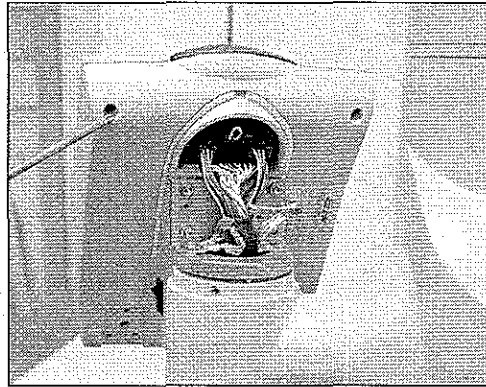

Figure 5-4a: Injector Controller
2. Remove the four corner Phillips screws from the Injector Controller's Rear Enclosure (see Figure 5-4a).
2. Secure the Front Enclosure to the Rear Enclosure with four corner Phillips screws (see Figure 5-4a).